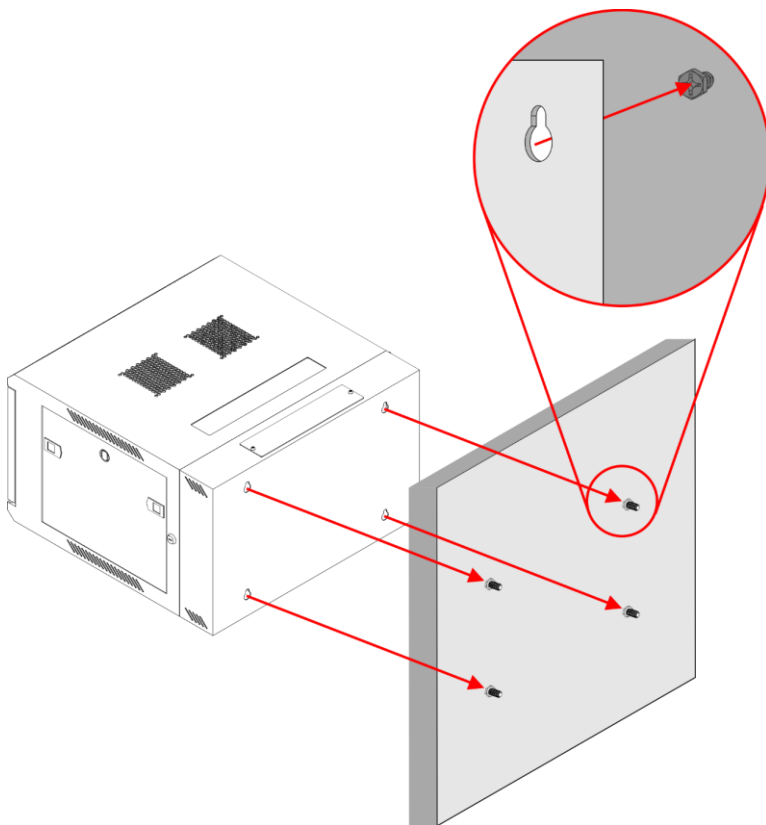
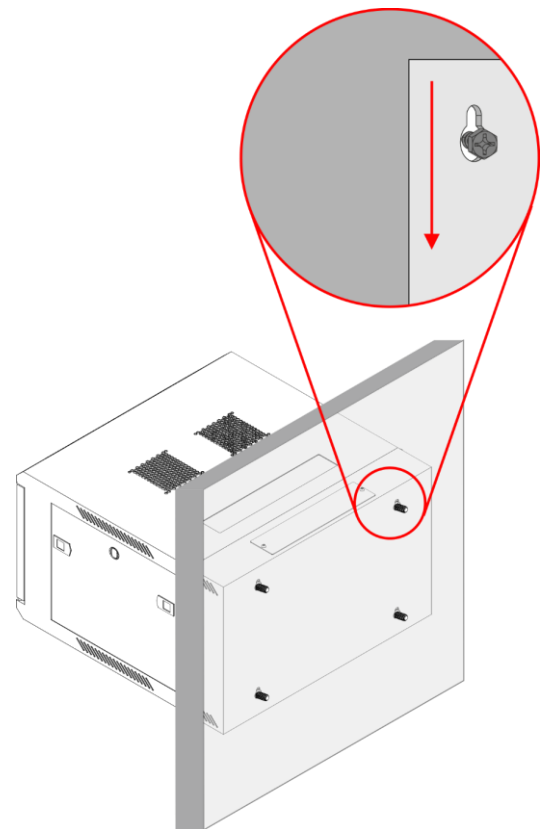

Fig. 22
Fig. 23
- 07) Hang the cabinet on the 4 screws on the wall, as shown in Fig. 22 and Fig. 23.